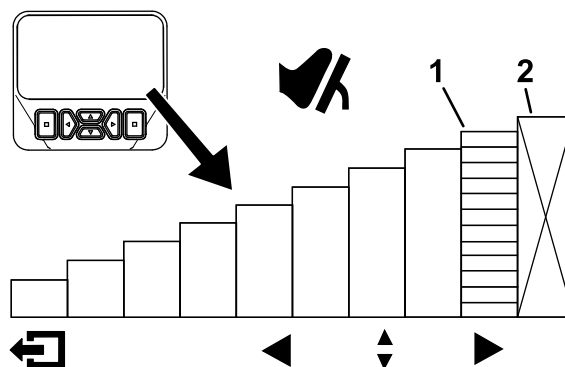
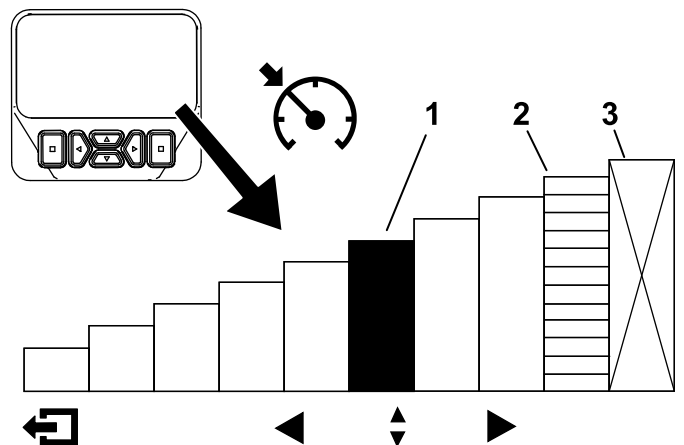

Figure 31
**Figure 33**
To access this feature, select the InfoCenter up or down navigation button from the main menu (Figure 31).
After the cruise control switch is enabled and the speed is set (Figure 33), use the InfoCenter to adjust the speed setting of the cruise control (Figure 31 and Figure 34).
1. Enable the cruise control switch on the console (Figure 33).